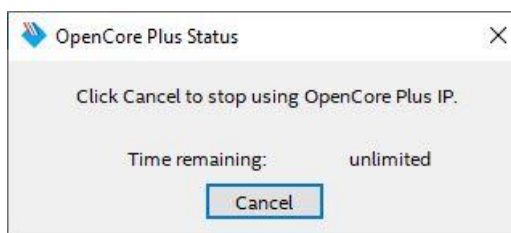

Figure 3-3 OpenCore Plus Status
- 6) When configuration is completed, Quartus will show popup message of OpenCore Plus as shown in Figure 3-3 OpenCore Plus Status. Please do not press cancel button, because NiosII in tCAMIP will stop running.